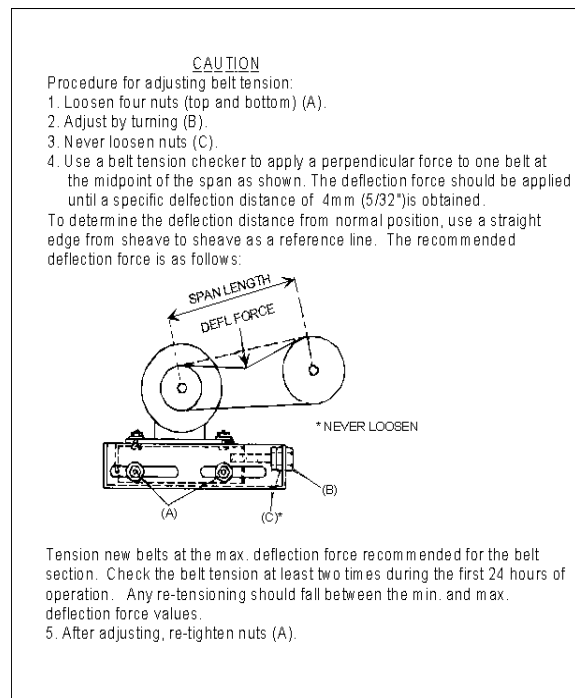

FIG.16 - BELT ADJUSTMENT
3. The tension on the belts should be adjusted as shown in Figure 16.